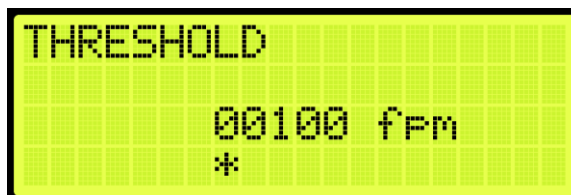

Figure 509: THRESHOLD Menu
4. From the THRESHOLD menu, set the threshold distance (See Figure 509).